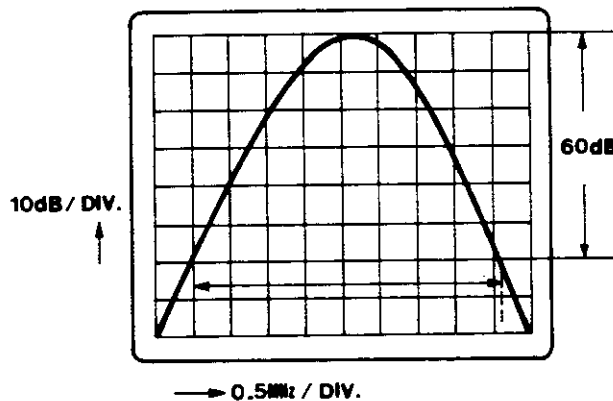

Fig. 3-25 Bandwidth Selectivity Test Display
- (1) Connect the Signal Generator output (100MHz/100dB $\mu$  approx.) to **INPUT** of the instrument.
- (2) Set **B.W. (6dB)** to 1.5MHz and **DISPERSION/DIV.** to 0.5MHz/DIV.
- (3) Set **IF GAIN** to 10dB, and **REFERENCE LEVEL** will display 100dB $\mu$ . [Fig. 3-25]
- (4) Adjust the Signal Generator output level and correspond the signal peak on the CRT display to the horizontal top line.
- (5) Read the bandwidth on the display at a point 60dB below the signal peak. Verify that the bandwidth is less than 22.5MHz (=1.5MHz x 15).
- (6) Reset **B.W. (6dB)** to 120kHz and **DISPERSION/DIV.** to 0.2MHz/DIV. Proceed with the same test as in (4) and (5) above, and read the bandwidth at 60dB below the signal peak. Verify that the bandwidth is less than 1.8MHz (=120kHz x 15).
- (7) Set **B.W.** to **AUTO** and **DISPERSION/DIV.** to 0.1MHz/DIV. The bandwidth is automatically set to 10kHz on the 3dB-bandwidth in this case. Read the bandwidth at 60dB below the signal peak and verify that it is less than 150kHz. [See Table 3-5]